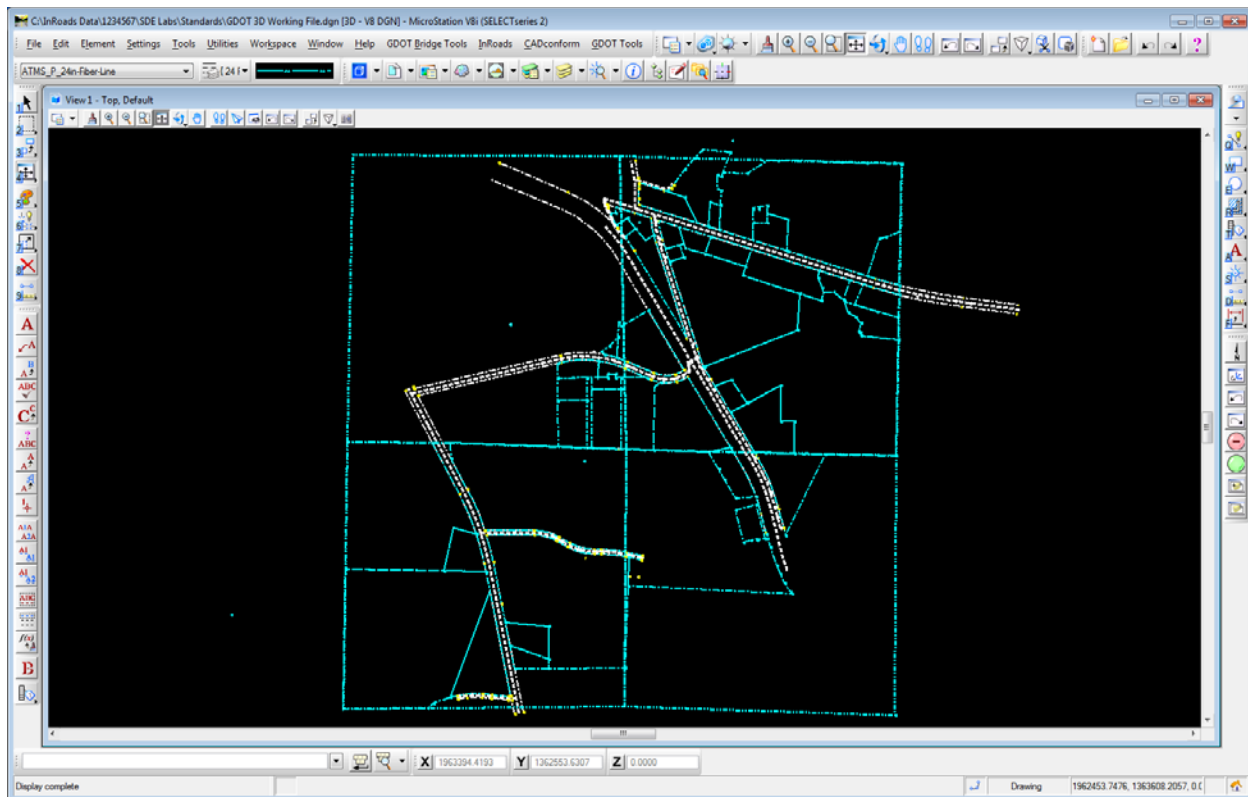

Figure L16-7 MicroStation View Window
- Verify that your Microstation View matches that shown in *Figure L16-7* and that the proper symbology has been applied by comparing to the current version of the EDG (Electronic Data Guidelines).
| 13. | <p>In MicroStation, notice the view changed when the .FWD file was opened. The reason for this is that in InRoads the default operation is to automatically view planimetrics whenever a new .FWD file is opened and automatically fits the view. It is good practice to turn off planimetrics.</p> <ul style="list-style-type: none"> <li>In InRoads, select Survey ► View Survey Data. Uncheck Planimetrics.</li> <li>In MicroStation, click the View Previous icon. This returns the view to that shown in Figure L16-7.</li> </ul>  <p>View Previous</p>                                  |